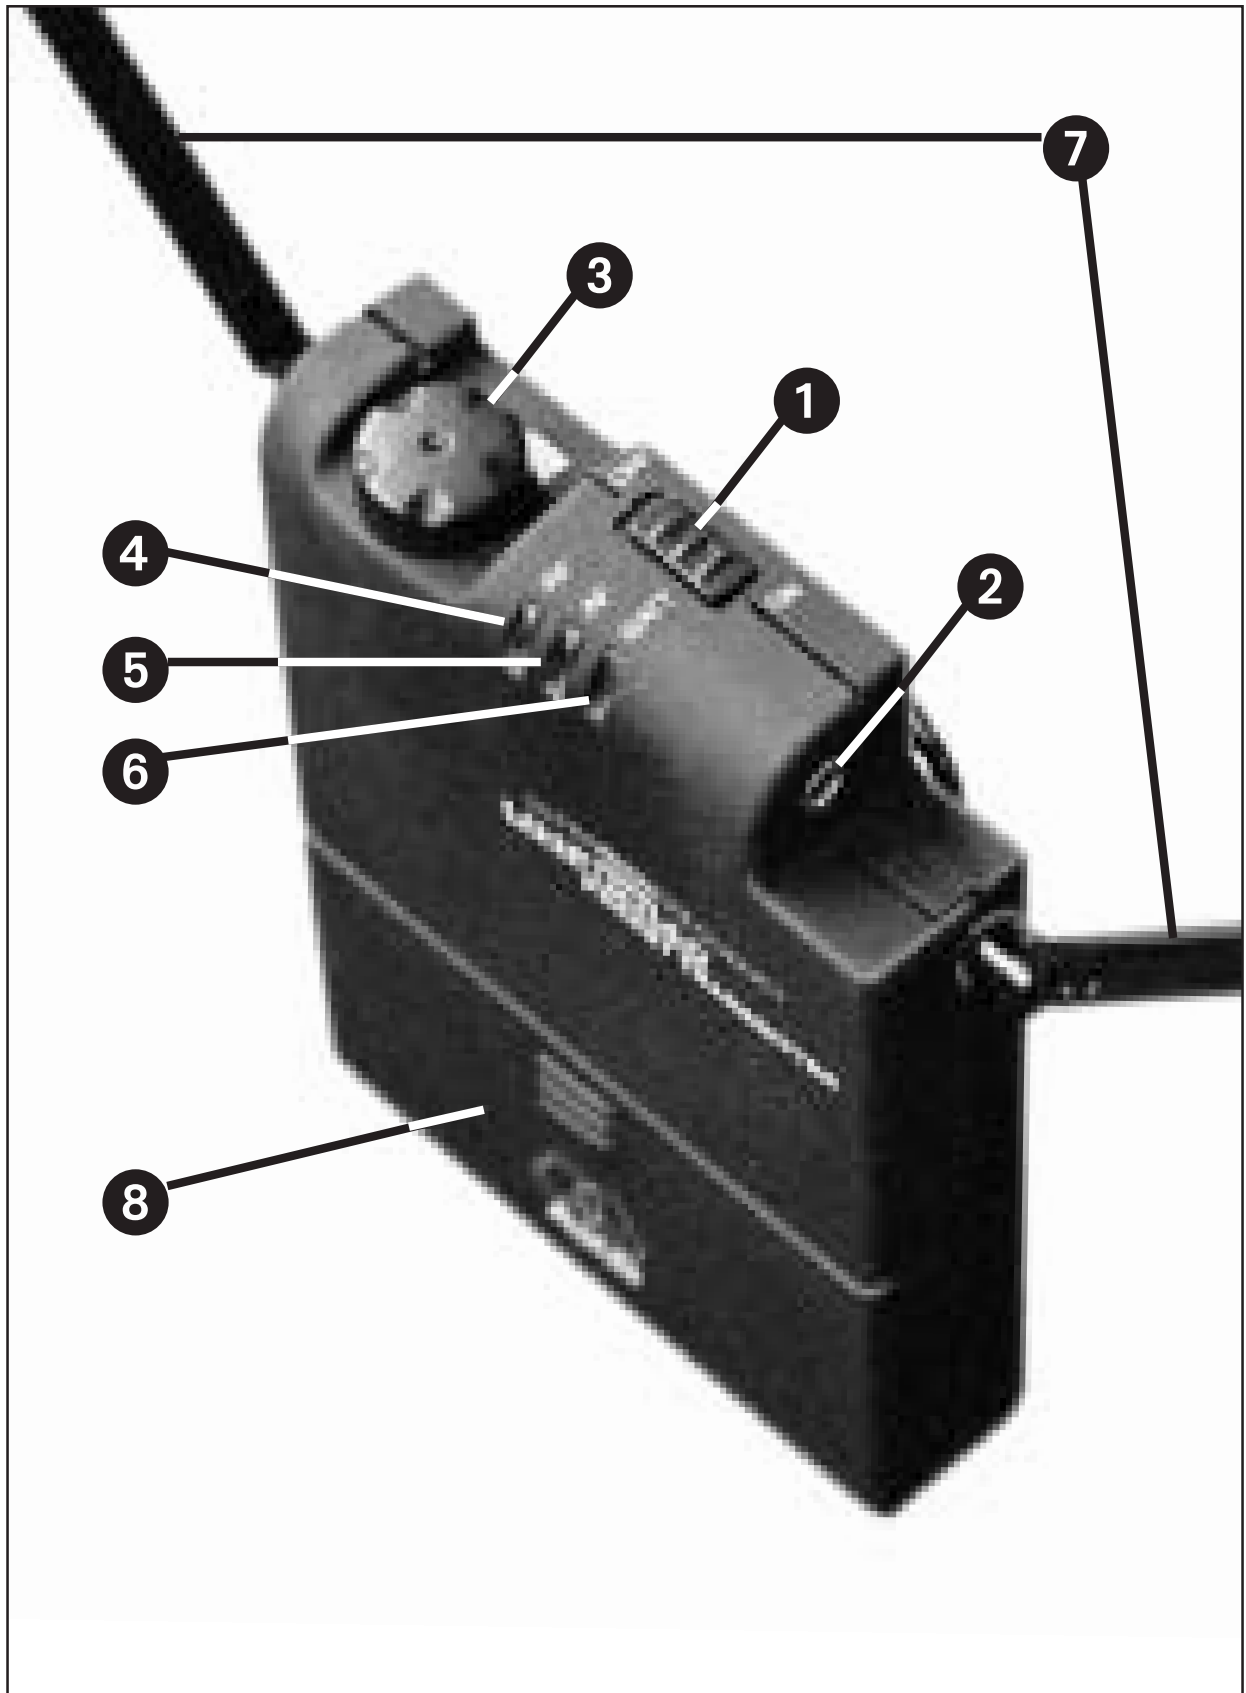

Fig. 1: Top panel controls.
2.5.1 Top Panel (Fig. 1)
- ➋ **Output jack:** This .1-in. TRS jack on the receiver top panel provides a fixed-level line output and an adjustable mono headphone output. The volume control (3) lets you adjust the volume level of the headphone output.